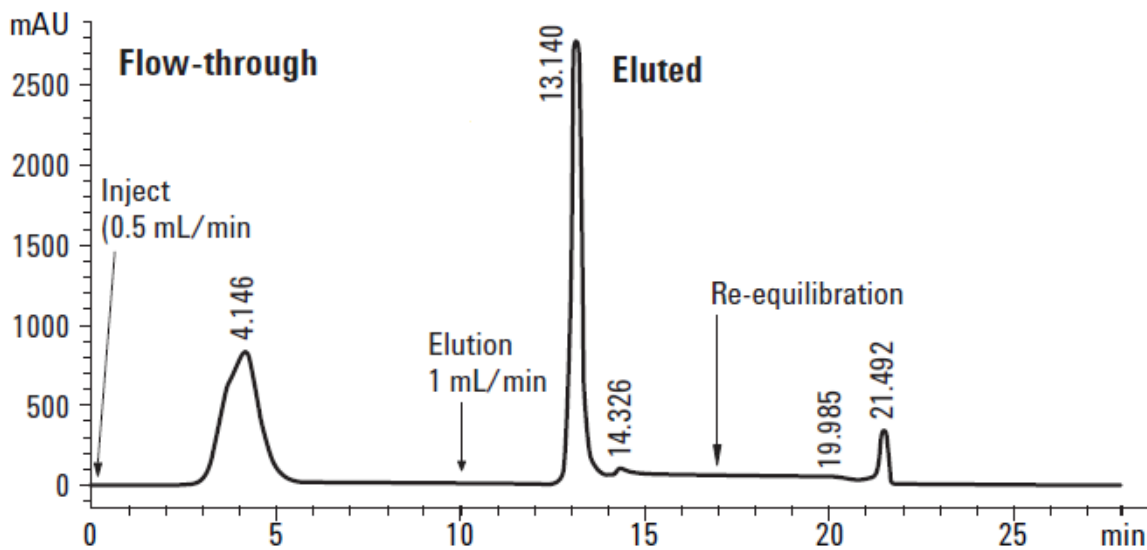

Figure 3 Representative chromatogram for 4.6 x 100 mm column.
- 2 Collect the flow-through fraction (like that which appears from 2.5 to 6 min in the typical chromatogram shown in Figure 3 on page 16). Store collected fractions at -20 °C if not analyzed immediately.